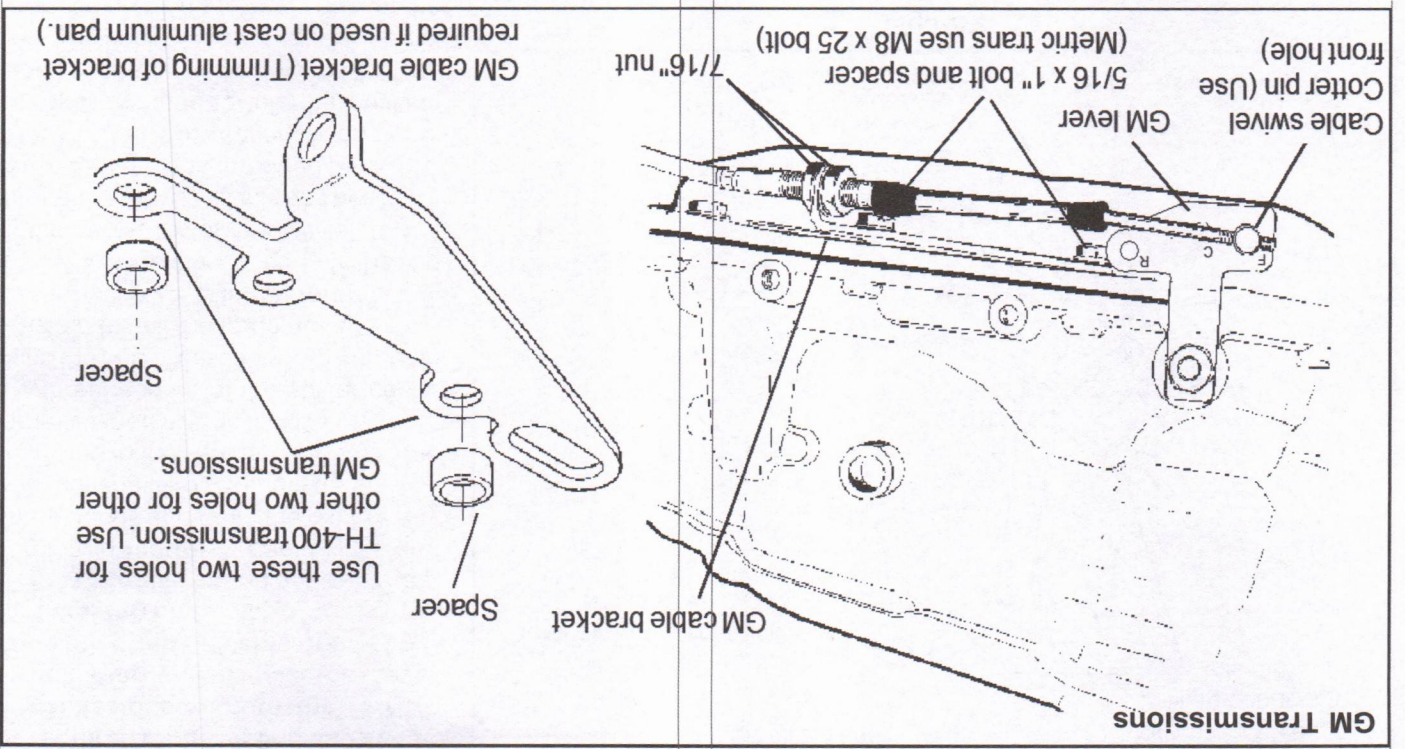

Figure 4
STEP 11. If you have not already done so, remove the stock selector lever nut and selector lever from the transmission. Discard the stock lever and the stock shifter linkage. Install the **B&M** selector lever in position using the stock selector lever nut (See **Figure 4**). Torque the nut to 23 lbs.ft. The lever should move smoothly from front to rear with a positive click in each gear position.
STEP 12. Remove two transmission oil pan bolts from the middle of the left side of the oil pan. Install the cable bracket in position (**See Figure 4**). The bracket must be installed with two spacers between the pan and the bracket. (If your transmission is equipped with a cast aluminum oil pan, these spacers should be omitted. With a TH-400 with a cast aluminum oil pan the cable bracket may have to be modified.) Install the two 5/16-18 x 1.00" bolts (Metric transmiss-ions use the two 8mm x 25mm bolts) supplied and tighten 12-13 lbs. ft. Do not overtighten as this can damage the pan gasket.